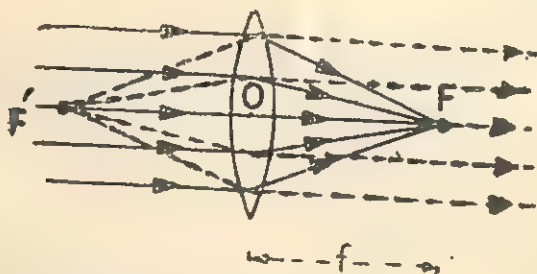

Fig. 11.17. Principal Focii of a convex lens.
**Principal Focus.** When a parallel beam of light, parallel to the *principal axis*, passes through a convex lens, it converges at a point  $F$  on the principal axis on the other side of the lens as shown in Fig. 11.17. This point  $F$  is called the **First Principal Focus**. The distance between the optical centre  $O$  and the first principal focus  $F$  is called the **First Principal focal length** or simply the **Focal Length**. There is another point  $F'$  at the same distance (equal to focal length) from  $O$  on the other side of the lens which is called the second principal focus. The property of the point  $F'$  is that rays starting from this point are rendered parallel after passing through the lens as shown in Fig. 11.17.
(3) The object distance  $u$ , image distance  $v$  and the focal length  $f$  are related by the formula  $\frac{1}{v} - \frac{1}{u} = \frac{1}{f}$ .